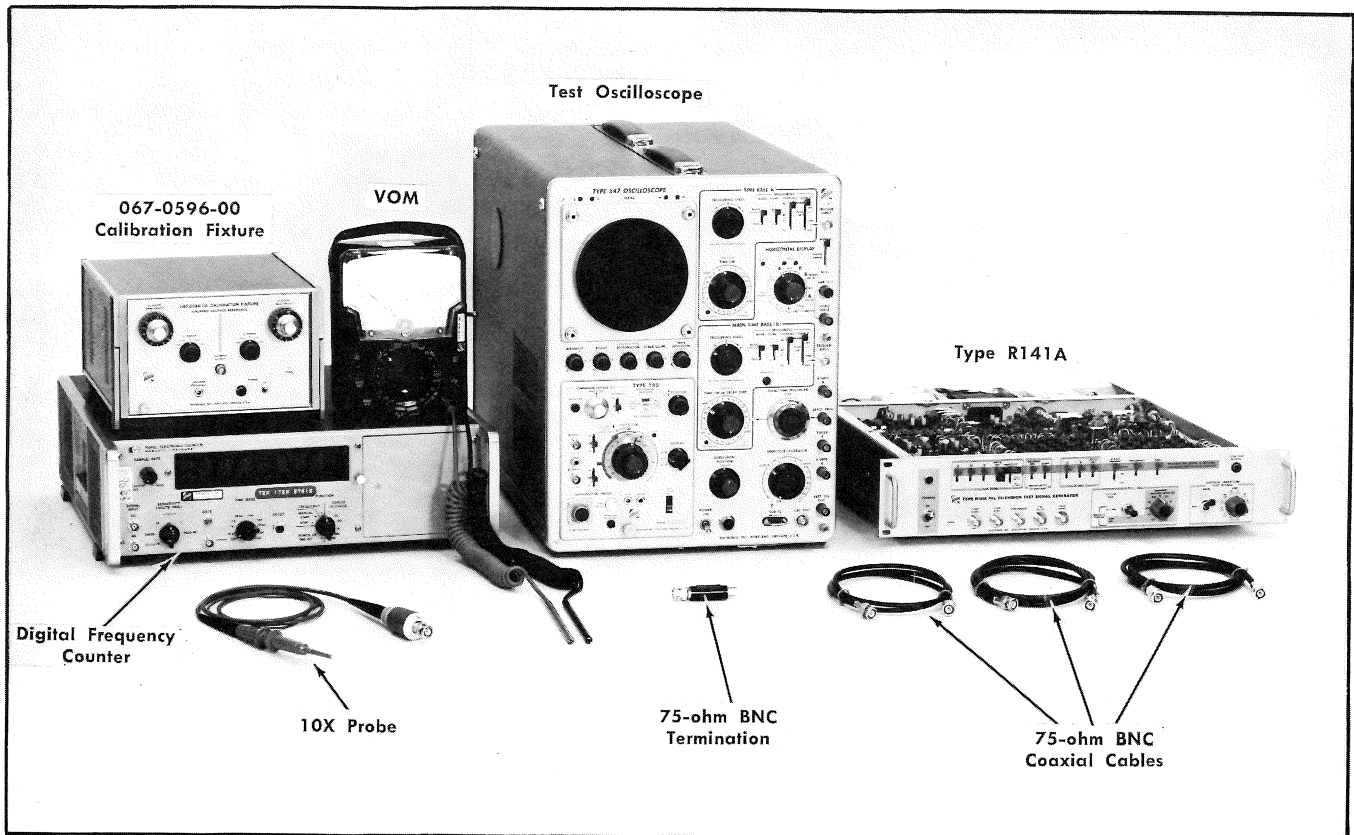

Fig. 5-3. Equipment required for steps 3 through 5.
**3A. Check/Adjust Subcarrier Oscillator Frequency** ①
- a. Test equipment is shown in Fig. 5-3.
g. Disconnect all test equipment and reset the Test Oscilloscope and Type 1A5 switches and controls as listed following Fig. 5-3.
a. Test equipment is shown in Fig. 5-3.